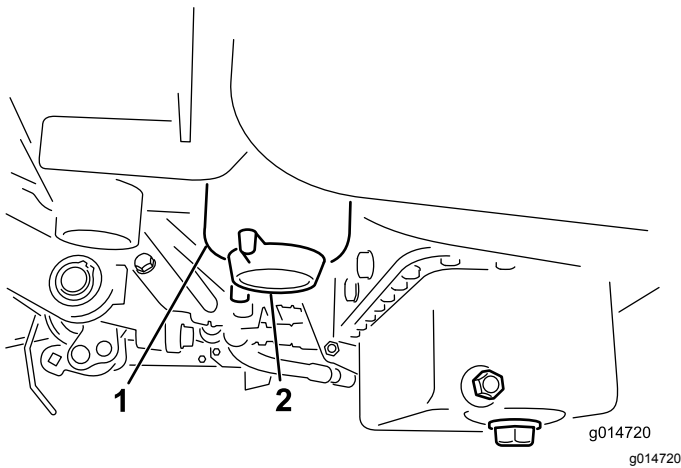

Figure 43
2. Clean the area where the filter canister mounts (Figure 43).
4. Open the filter drain plug (Figure 43).